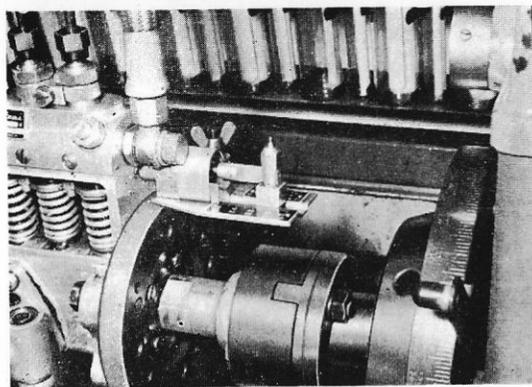

Fig. 9-62
- 1) First move the control rack all the way in direction in which the fuel delivery decreases and then slide it 12.6mm back in opposite direction and fix it in that position. (See Fig. 9-62)